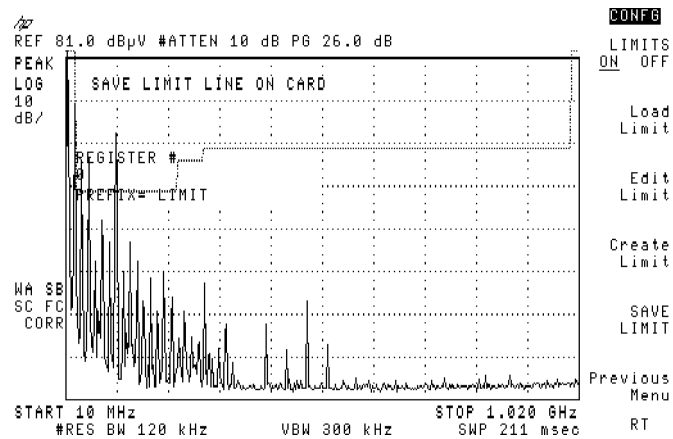

Figure 3-72. Save Limit Screen
4. Press **SAVE LIMIT**. See Figure 3-72.